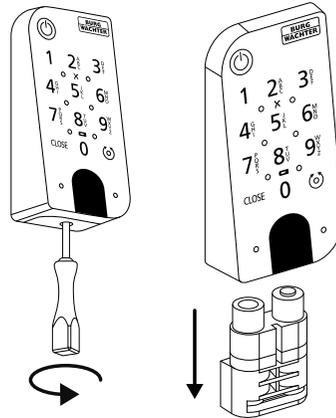

Fig. 123
- 1 Remove the screw from the bottom of the keypad using the Tx8 screwdriver supplied with the keypad and pull the battery compartment downwards (Fig. 123).